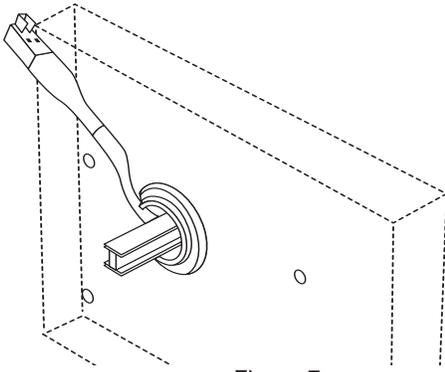

Figure 7
- 11). Route the cable on the notch of the cable clamp as shown, see *Figure 7*.